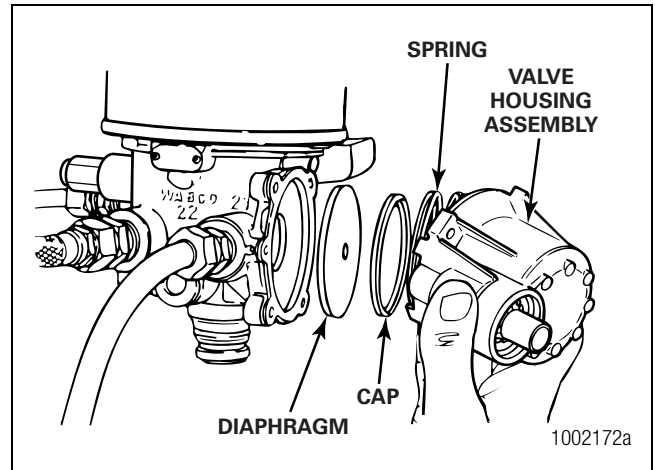

Figure 2.12
- Install the new spring and cap with the cap lip facing out. Install the valve housing assembly with the new lubricated O-ring and filter over the orifice. Install the new mounting bolts and tighten to 53 in-lb (6 N•m). Figure 2.12.